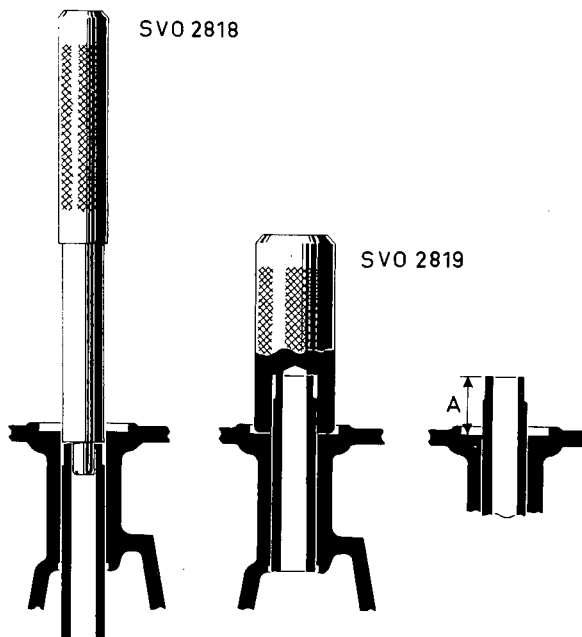

Fig. 2-18. Replacing valve guides
2. Press in the new guides using drift 2819, which gives the correct pressing-in depth. See Fig. 2-18.